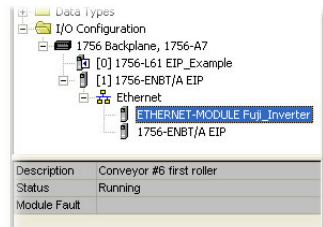

Figure 84: Online Module Status
- 7) Switch to online mode and download the project to the PLC. Verify that the newly-added inverter is available and operating correctly by observing any indications shown on the inverter’s icon. When the inverter’s icon is selected, its status and any available error messages will be displayed in the area below the project tree. Refer to Figure 84. Also confirm that the interface card’s “Network Status” LED should be solid green, indicating an “online/connected” state.